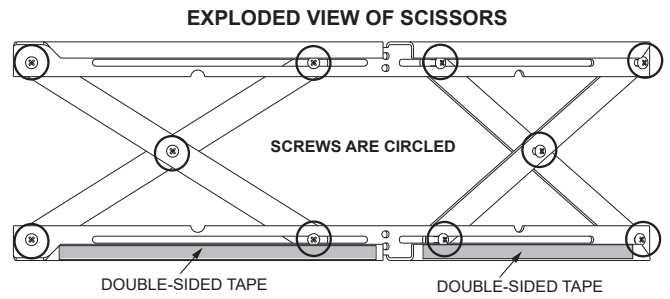

Figure 24.1
**Included in Kit:** (1) trim top, (1) trim front, (2) trim sides, double-sided tape (already installed)
1. The 10 screws on each set of scissors will already be loose when shipped (**Figure 24.1**).